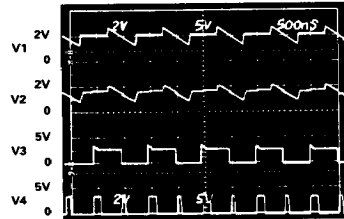
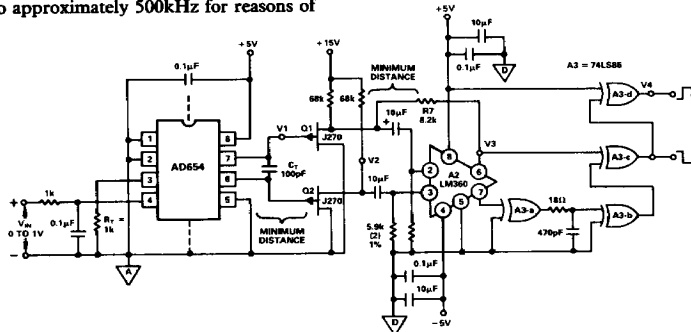

Figure 14. Waveforms of 2MHz Frequency Doubler
Figure 13. 2MHz, Frequency Doubling V/F
Figure 13 illustrates this with a circuit offering 2MHz full scale. In this circuit the AD654 is operated at a full scale (FS) of 1mA, with a  $C_T$  of 100pF. This achieves a basic device FS frequency of 1MHz across  $C_T$ . The P channel JFETs, Q1 and Q2, buffer the differential timing capacitor waveforms to a low impedance level where the push-pull signal is then AC coupled to the high speed comparator A2. Hysteresis is used, via R7, for non-ambiguous switching and to eliminate the oscillations which would otherwise occur at low frequencies.
The net result of this is a very high-speed circuit which does not compromise the AD654 dynamic range. This is a result of the FET buffers typically having only a few pA of bias current. The high end dynamic range is limited, however, by parasitic package and layout capacitances in shunt with  $C_T$ , as well as those from each node to AC ground. Minimizing the lead length between A2-6/A2-7 and Q1/Q2 in PC layout will help. A ground plane will also help stability. Figure 14 shows the waveforms V1 - V4 found at the respective points shown in Figure 13.